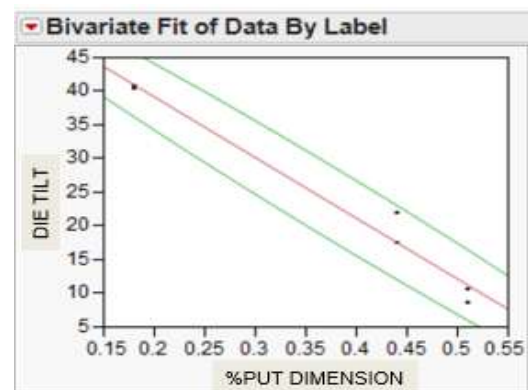

Fig. 3: Correlation
- In Fig 3, shows the correlation study of tool dimension and die tilting behaviour of the MEMS die.